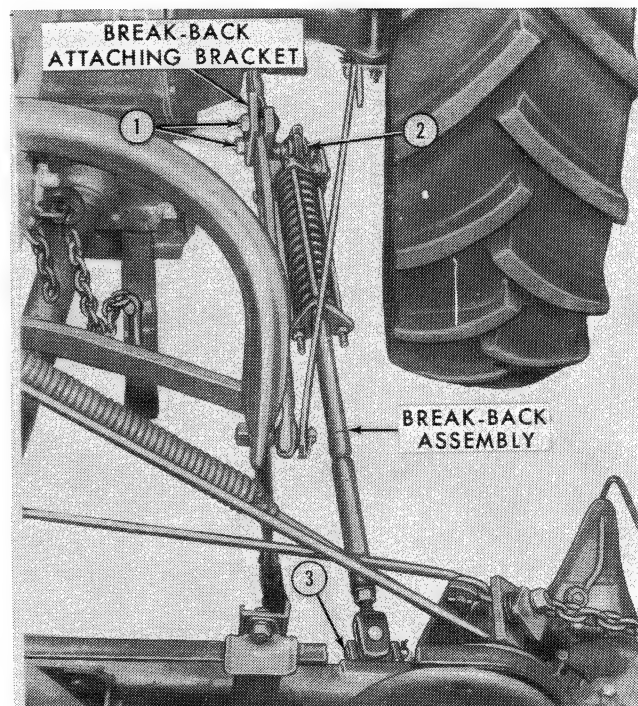

*Figure 38*
24. Install the idler shield, Figure 38, on the idler sheave attaching bolts and secure with the two 5/8" nuts (provided in the bag of hardware).
27. Install the main drive sheave shield, Figure 38, with the three 7/16" – 14 x 1" hex head bolts,